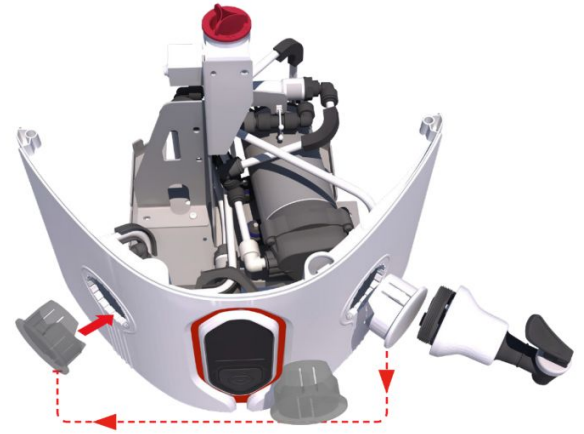

Fig 5
1. MOVE the Dispense Tap from the LEFT side to its new dispense location on the RIGHT side. REMOVE the white blanking cap by PULLING firmly to release the clips. (Fig 5)
2. MOVE and INSERT the white blanking cap into LEFT Dispense Tap hole. PUSH firmly to secure into place. (Fig 5)